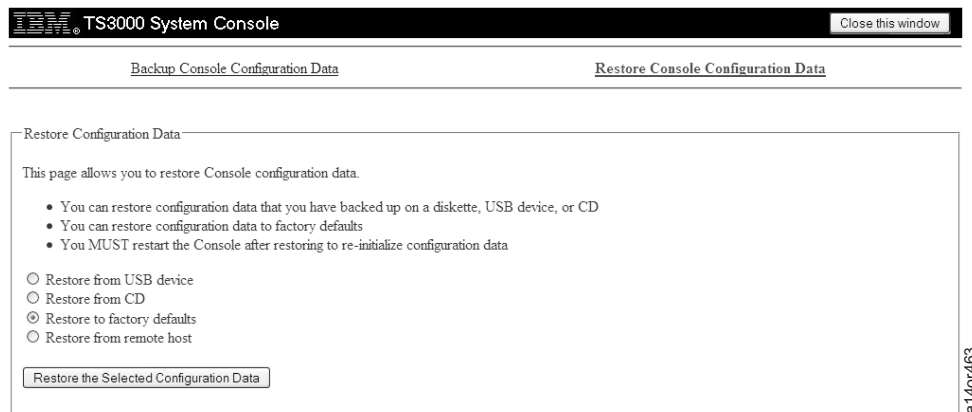

Figure 125. Restore Configuration Data Screen
6. Click **Restore Console Configuration Data**. You see the screen shown in Figure 125.